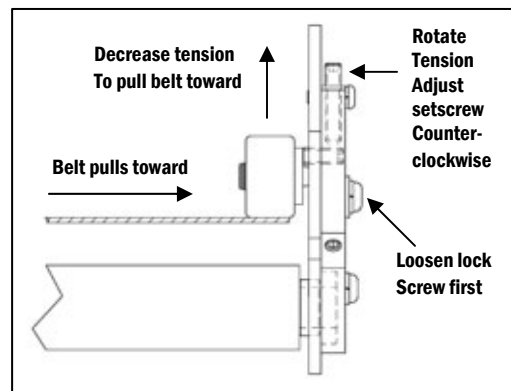

Figure 6
e. Loosen tension lock screw to enable Z-Track Idler tension adjustment. Turn the tension adjust set screw counter-clockwise (threading out). Decreasing the Z-Track idler tension adjustment on that side will pull the belt toward the idler (**Figures 6**). Tighten tension lock screw and wait for two complete belt revolutions to see if adjustment corrects the issue.